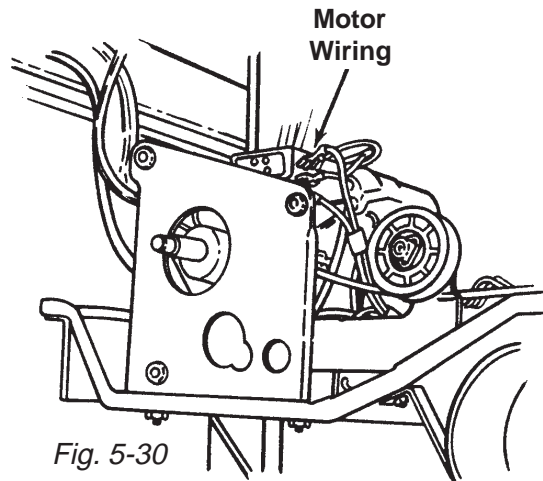

Fig. 5-30
8. Remove the Motor Wiring. (Fig. 5-30)
10. Remove four (4) motor bracket retaining screws and remove the motor.